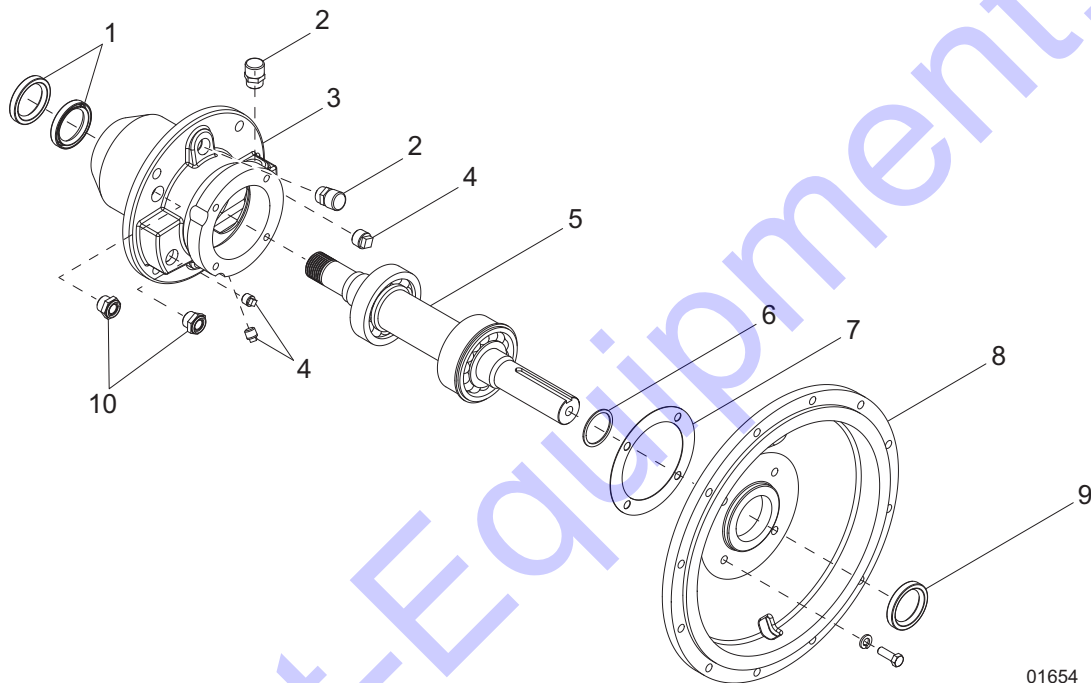

Figure 4-5. Bearing Frame Assembly
7. Refer to **Figure 4-5** for installation of the breathers, plugs and sight gauges.